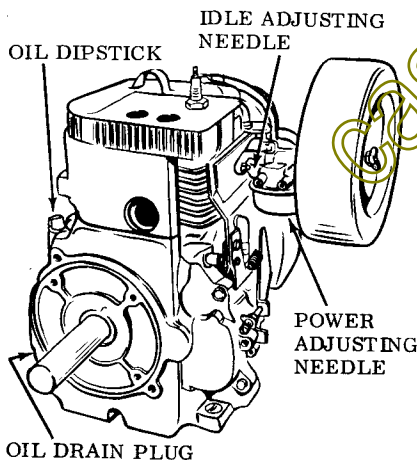

FIGURE 1
2. Fill Crankcase with oil (Fig. 1). Position equipment so that engine is setting level. Remove dipstick or filler plug, (Fig. 1). Pour oil into filler tube from which dip stick is screwed into filler opening as far as it will go when measuring oil level. DO NOT OVER FILL.
1. Close power adjusting needle (Fig. 1) by turning right (clockwise). Close finger tight only. Forcing will cause damage.
3. Close idle adjusting needle (Fig. 1) by turning to right (clockwise). Close finger tight only. Forcing will cause damage.
7. Hold throttle lever closed or move carburetor control to "idle or slow" position and adjust idle adjusting needle until the engine runs smoothly, proceeding as in step (6) six above.
8. Allow several seconds between each adjustment when performing either step six (6) or seven (7) to allow engine to react to new setting.